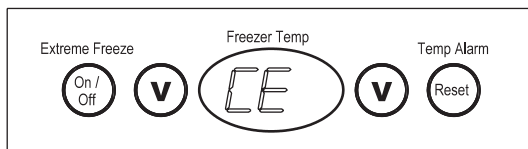

Figure 9
The display will alternate between temperature and “CE” or “E” and the control panel will beep every five (5) seconds (see figures 9 and 10). Press the ALARM RESET button to turn the audible alarm (beep) off. Call service repair to correct the problem.